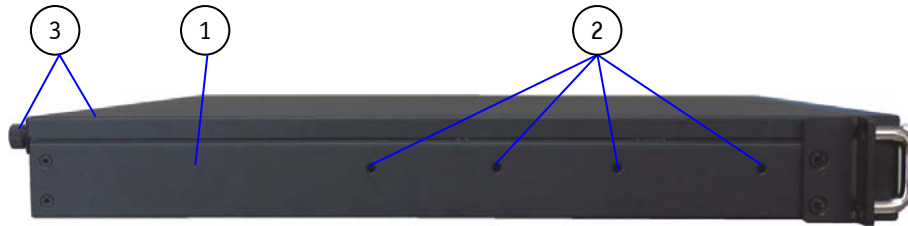

Fig. 12: Side view with tapped M4 metric holes to attach a telescope rail
The four M4 metric tapped holes (Fig. 12, pos. 3) are available at the left and right side of the unit. These can be used in order to attach slide rails (not included in the scope of delivery) to the KISS 1U Short platform for system installation into a 19" industrial cabinet. Refer to the chapter 11 "Slide Rails (Option)".